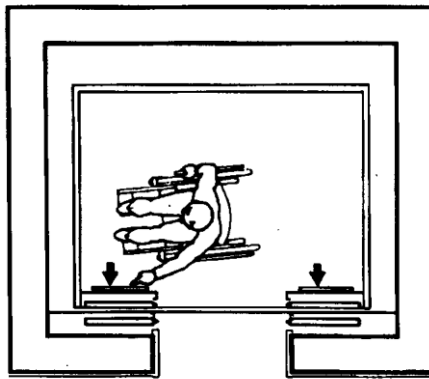

Figure 2 - Location of panel with front opening door (ADA)
- It is recommended that controls shall be located on a front wall of the elevator if there are centre opening doors (as shown in Figure 2 below).